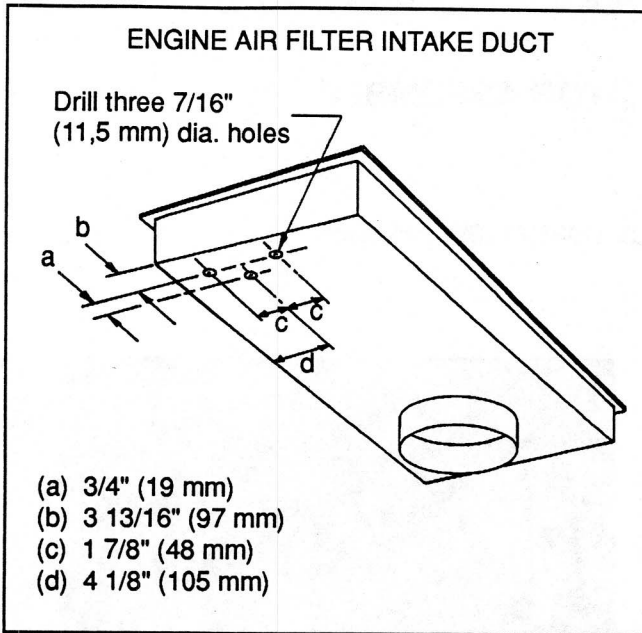

Fig. 2 - Ventilator Mounting Holes
- a) Using an appropriate tracing tool, mark location of mounting holes on engine air filter intake duct (Fig. 2). Punch the center, then drill three 7/16" (11,5 mm) dia. holes.